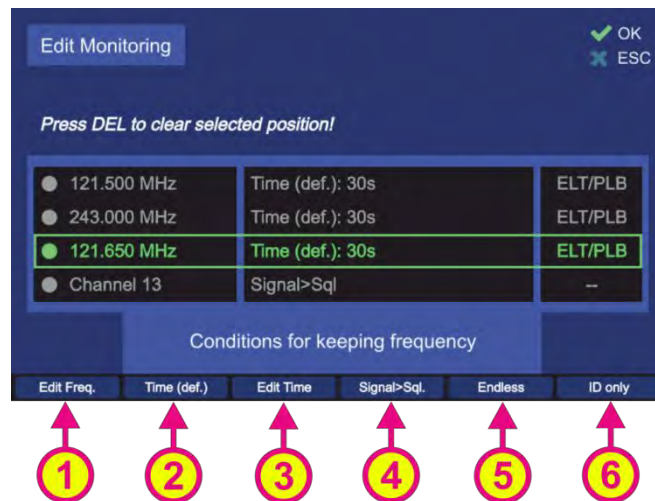
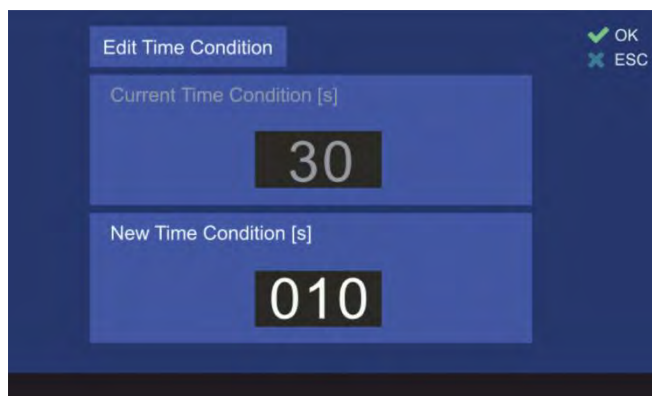

Fig. 31 Monitoring mode settings
Fig. 33 Hold time setting
For the procedure of how to activate the emergency transmitter filtering function, see 6.2.2.4 (Fig. 31, position 6).
- Pressing the hotkey "Edit Scan" (s. Fig. 29, position 4) opens the dialog for changing the monitoring settings (s. Fig. 31).
- The hotkey “Edit Freq.” (s. Fig. 31, position 1) opens the dialog which allows the modification of the currently marked frequency.
- Pressing the hotkey „Time (def)” (s. Fig. 31, position 2) will set the hold time (duration of staying in the scanning on this particular frequency) to the default value of 30 seconds.
- Pressing the hotkey “Edit Time” (s. Fig. 31, position 3) will open the sub-dialog for changing the hold time to the customized value (s. Fig. 33). Use the number keys of the DCU keypad to type the new value in and confirm it with “OK”.
- The hotkey “Signal > Sql” defines the behavior of the monitoring algorithm to “signal level > squelch level” (s. Fig. 31, position 4).
- The hotkey “Endless” (s. Fig. 31, position 5) defines the behavior of the monitoring algorithm when an active frequency has been found.
- Pressing the hotkey “ID only” (s. Fig. 31, position 6) activates or deactivates the feature “ID Only” (s. 6.2.2.3):